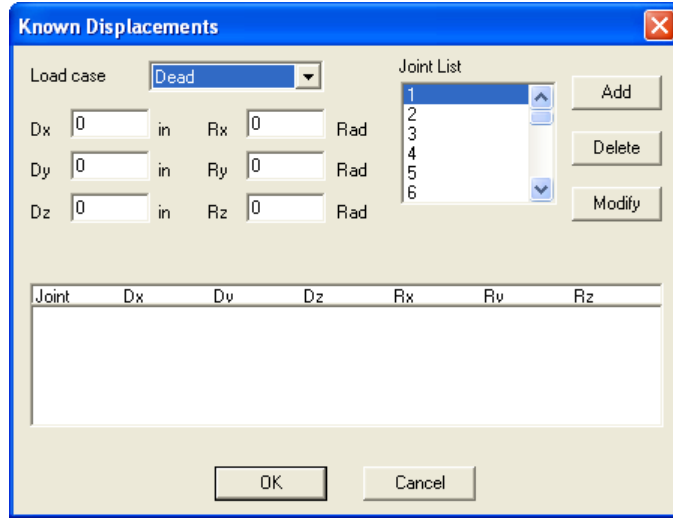

Figure 3-33 Known Displacements dialog box
- From the Analyze menu, select Known Displacements. The dialog box of Figure 3-33 appears. Some text boxes may not be available depending on the structure type selected.